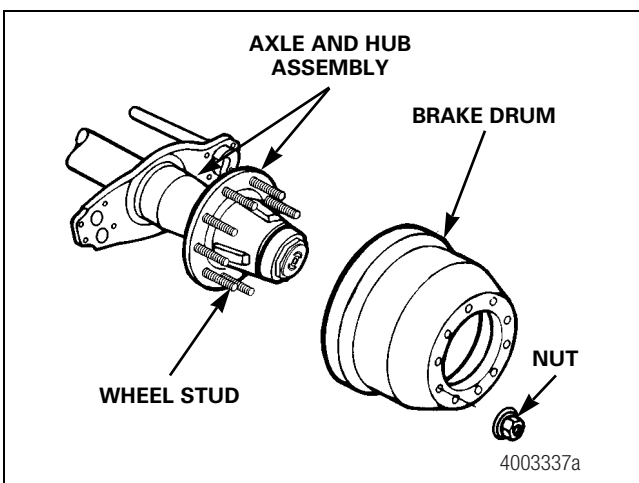

Figure 12.37
1. Remove the brake drum, slack adjuster and brake shoes. Figure 12.37.